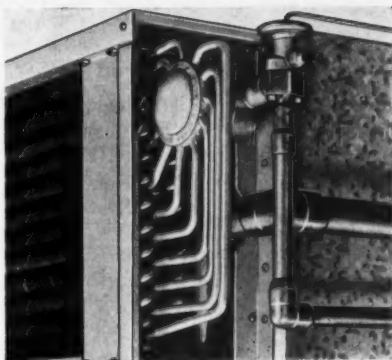

Fig. 3—Centrifugal Header
3. *Velocity or centrifugal header:* Here the distribution depends upon adequate velocity to supply the proper quantities of liquid to all outlets of the header. The refrigerant enters the distributor tangentially to give it a whirling motion. Fig. 3.